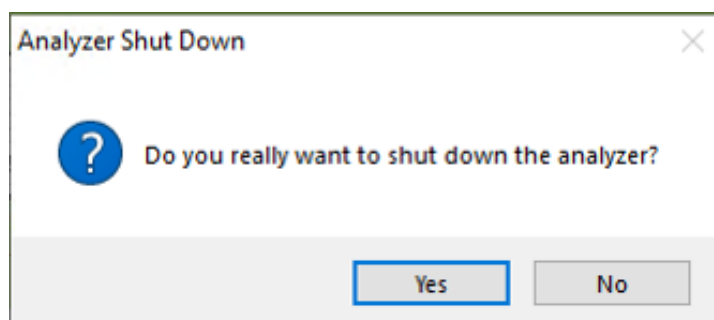

Figure 26: Shutdown Confirmation Pop-Up Dialog
If you have trouble turning off the analyzer software, do not use the Windows Task Manager to kill the process(es). Instead, double-click on the “Stop Instrument” icon in the Diagnostics folder on your desktop and select the default option to stop the software with the drivers running. See Figure 26 below.
3. A window will pop-up (Figure 26) prompting the user to confirm the shutdown. Once confirmed, the analyzer software and hardware will turn off. (Note: If three options are given on an older instrument, choose the “For **Shipment**” option.)